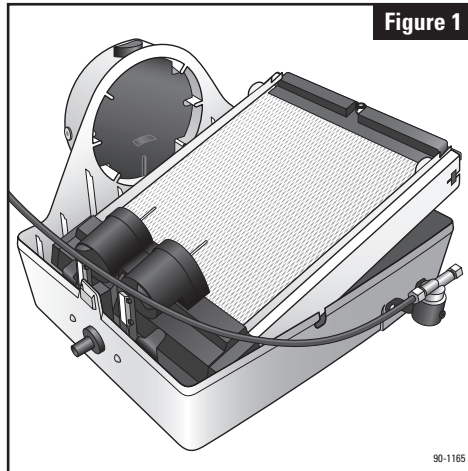

Figure 1
1. Press top & bottom tabs to remove cover (1). Pull feed tube (3) out of distribution tray (4). Remove Water Panel® Evaporator assembly. See **Figure 1**.
2. Humidifier is supplied with bypass duct connection on left. For right side bypass, swap location of water level sensor assembly (9) and cap (10).